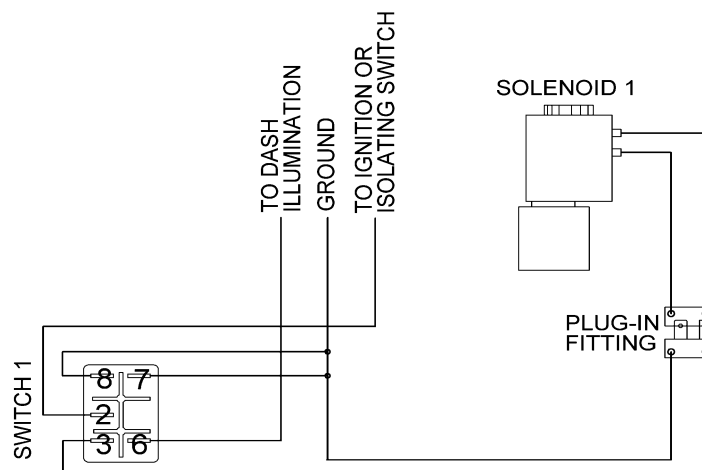

Figure 23.
When connecting the actuation switch to an alternate air source, the switch(es) should be wired according to Figures 23. and 24., depending on whether one or two *Air Lockers* will be installed in the vehicle.
- ☐ If only one *Air Locker* is to be installed in the system, the switch and solenoid should be wired according to Figure 23. regardless of whether the Air Locker has been installed in the front or rear axle of the vehicle.